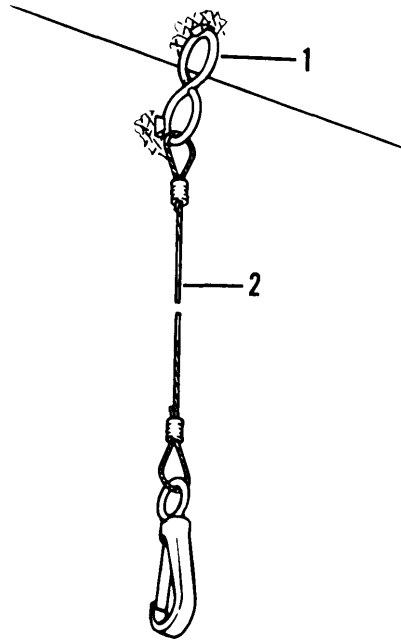

Figure 4-49. Stake Retainer
- (1) Using cutting torch, cut weldment (fig. 4-49).
- (2) Grind weld off frame surface.
- (3) Repeat steps 1 and 2 for other stake retainers as needed.
- (1) Position s-hook (1, fig. 4-49) and stake retainer (2) according to recorded measurements.
- (2) Weld s-hook (1) and stake retainer (2) to frame using arc welder. Refer to TM 9-237.